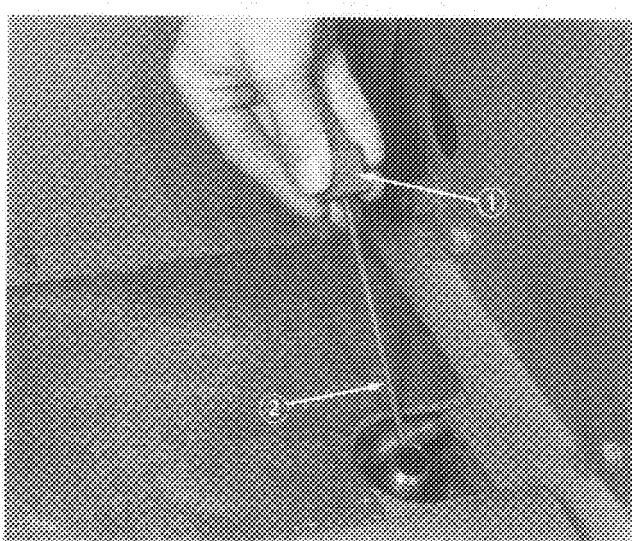

Figure 18
2. Unscrew dipstick cap (Fig. 18) from filler neck and wipe it with a clean rag. Screw dipstick cap finger-tight onto filler neck. Unscrew the dipstick and check level of oil. If level is not within 1/2 inch (13 mm) from the groove in the dipstick (Fig. 18), add enough oil to raise level to groove mark. DO NOT OVERFILL by more than 1/2 inch (13 mm) above groove.